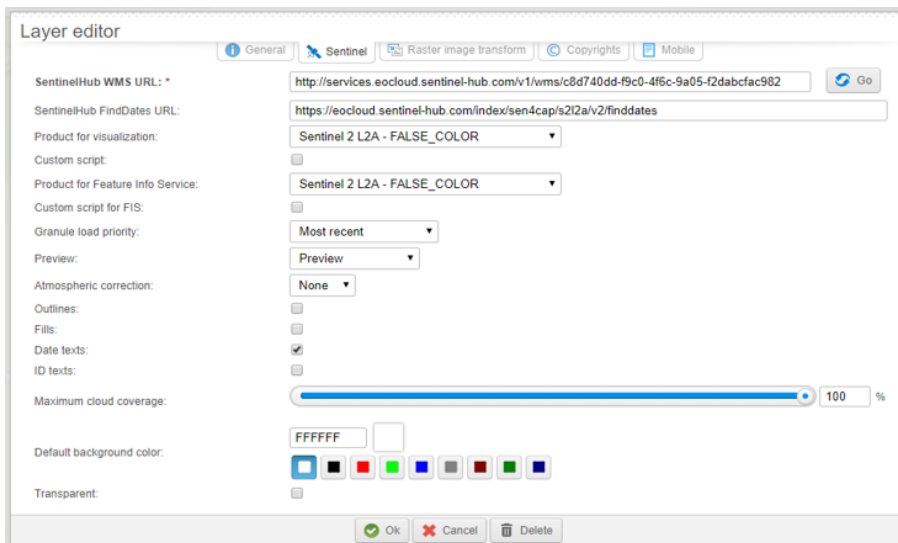

Figure 6-7. Settings for the S2 L2A False Color layer
- **S2 L2A - False Color** (Figure 6-7)